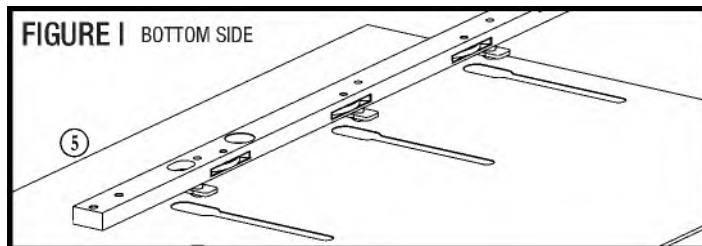
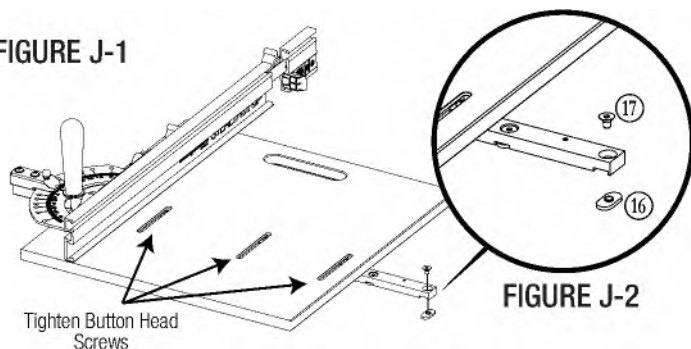

FIGURE J-1
FIGURE J-2
10. The Miter Sled attaches to the Miter Bar ③ through slots that accommodate the distance between the miter slot and the saw blade of most table saw designs.
11. Place a Rectangular Washer ⑮ onto a Button Head Cap Screw ⑭ and thread into the holes in the Miter Bar. At this point in time, the screws only need to be threaded in a couple of turns. **FIGURE H**
13. Once all three washers and button heads have dropped into the slots, slide them to the middle of the track. Flip the sled right side up. Tighten the Button Head Screws into the Miter Bar until they are just snug enough to keep the bar from sliding. Calibration of the Miter Bar to your saw will be done later. **FIGURE J-1**
14. There are (2) T-Slot Nuts you can install if your table saw miter slot has a T-shaped profile.
15. To install, place a Track Nut ⑮ into the cutout, with the raised side facing the hole, then install a Flat Head Screw ⑰ into the countersink on the other side of the Miter Bar. Tighten fully using the Hex L-Key. **FIGURE J-2**
16. One Zero Clearance Block ⑧ is included. This MDF block helps push the offcut past the blade and prevents tear out on the backside of the cut. To install the Zero Clearance Block, pre-install the Button Heads ⑱, #10 Washers ⑲, and #10 Track Nuts ⑮ into the block, then slide into the rear slot of the Fence Track. Additional blocks are available for purchase in 3-packs, or you can make your own. **FIGURE K**